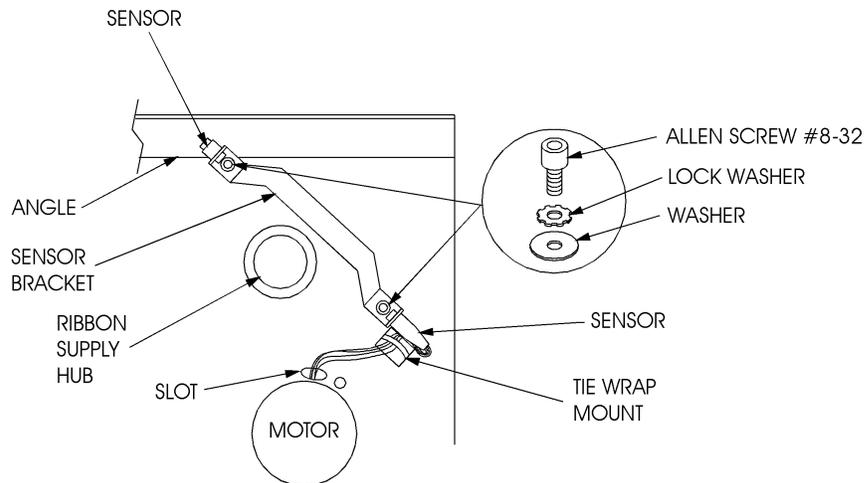

Figure 2-6
5. Route the ribbon low sensor assembly cable through the slot above the stepper motor. (Fig. 2-6)
6. Align the ribbon low sensor assembly with the holes in the PA/4000 as shown in Figure 2-6.
9. Align the plastic tie wrap mount with the hole in the PA/4000 as shown in Figure 2-6.